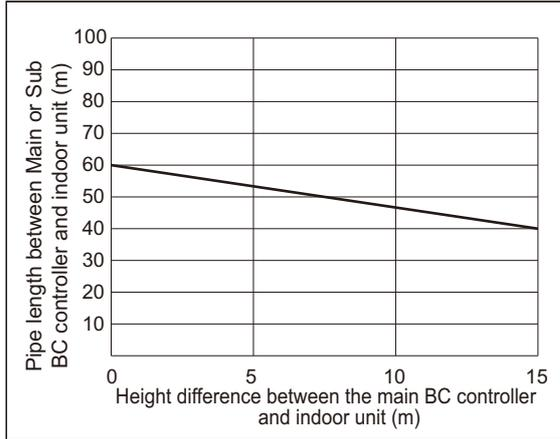

Fig. 2
- *9. When the piping length or the vertical separation exceeds the limit specified in Fig. 2, connect a sub BC to the system. The restriction for a system with a sub BC connection is shown in Fig. 3. When a given system configuration falls within the shaded area in Fig. 3, increase the size of the high-pressure pipe and the liquid pipe between the main BC and sub BC by one size. When using P/M32, P/M40, P/M50, P/M100, or P/M125 model of indoor units, increase the size of the liquid branch pipe between the sub BC and indoor unit by one size. When using indoor models P/M140 or larger, the restrictions shown in Fig. 2 cannot be exceeded.
*9. When the piping length or the vertical separation exceeds the limit specified in Fig. 2, connect a sub BC to the system. The restriction for a system with a sub BC connection is shown in Fig. 3. When a given system configuration falls within the shaded area in Fig. 3, increase the size of the high-pressure pipe and the liquid pipe between the main BC and sub BC by one size. When using P/M32, P/M40, P/M50, P/M100, or P/M125 model of indoor units, increase the size of the liquid branch pipe between the sub BC and indoor unit by one size. When using indoor models P/M140 or larger, the restrictions shown in Fig. 2 cannot be exceeded.